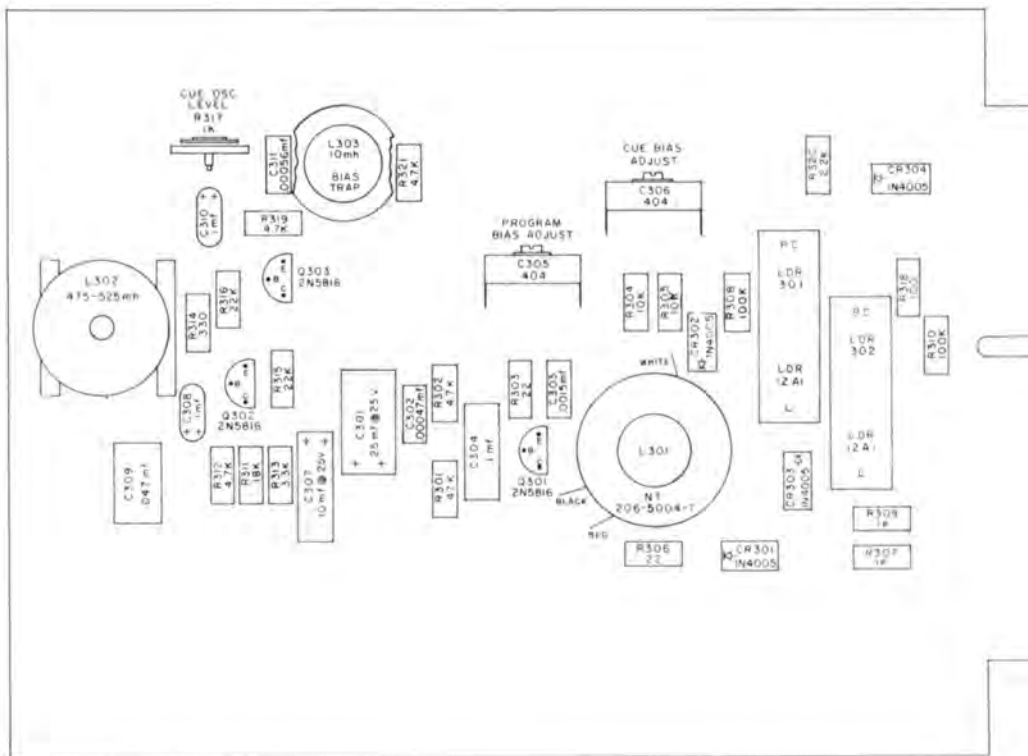

FIGURE 8-5
D. OSCILLATOR PC BOARD (831-0081-003 - Figure 8-5)